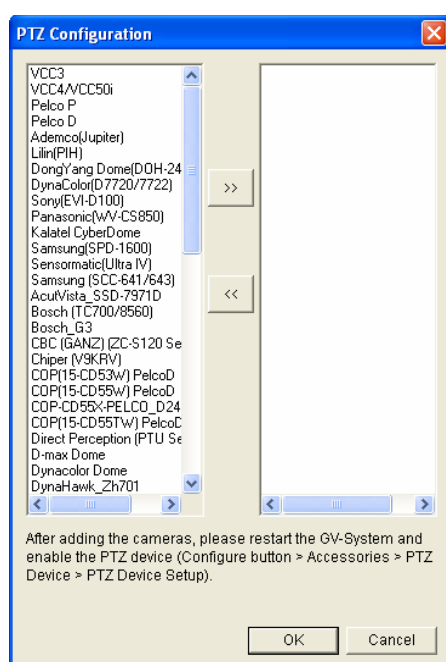

Figure 1-71
1. Select **Multi Position Tour** on the Camera Mapping Setup dialog box (Figure 1-71), and click the **Setting** button. This dialog box appears.
Note: It is required to set more than one span so that a specified camera behavior will only run in the defined time frame. Otherwise, you can select the **Auto**, **Preset** or **Multi Position Tour** option (see Figure 1-71) to configure the idle protection.